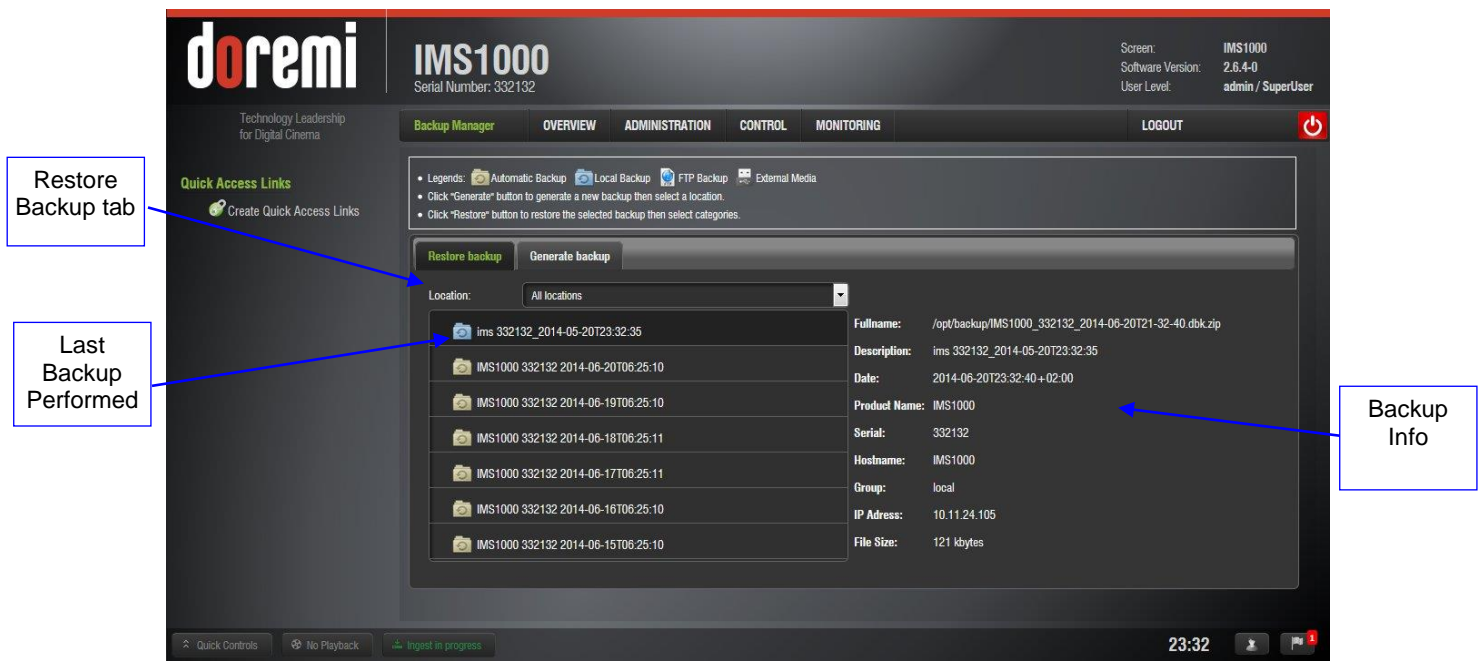

Figure 193: Home Page
The Restore Backup tab will appear, showing the latest backups available (Figure 193).
- Clicking on the backup file will display details about the backup on the right-hand side (Figure 193).